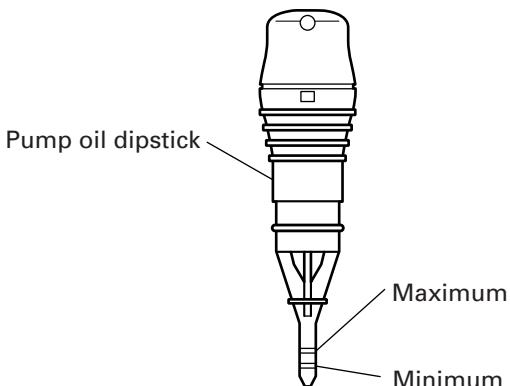
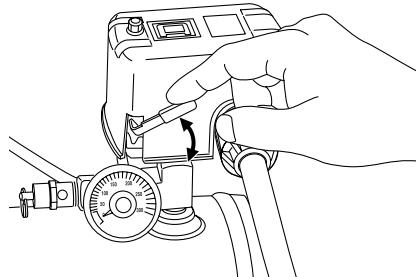
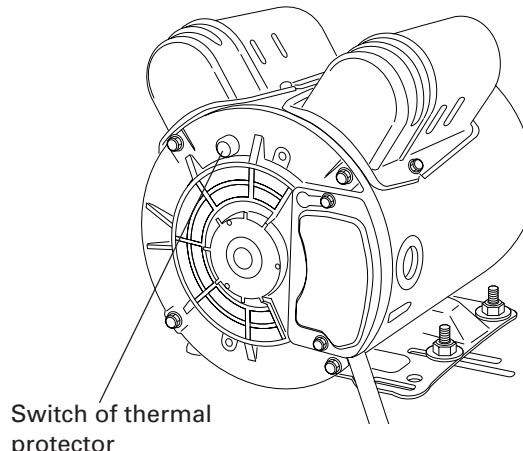

Fig. 2
Fig. 3
Fig. 8
- (1) Read safety warnings before setting-up this compressor.
- (2) Ensure the oil level in this compressor pump is adequate. If the oil level is low, replenish oil through the filling hole so that the amount of oil will come to a point between the maximum notch and the minimum notch on the pump oil dipstick according to the following OIL TYPE CHART. (Fig. 2)
- (1) The pump oil dipstick will register the amount of oil in the pump. (Fig. 2) Oil level should be checked on a daily basis to ensure it does not exceed the maximum notch or does not fall below the minimum notch on the pump oil dipstick. If the oil level is low, replenish oil through the filling hole so that the amount of oil will come to a point between the maximum notch and the minimum notch on the pump oil dipstick according to the OIL TYPE CHART on page 9.
- (2) Remove any moisture in the air compressor air tank. To drain the air tank, open the drain valve slowly and tilt compressor to empty accumulated water. Close tightly when drained.
- (3) Make sure the Motor/Pressure switch is in the "OFF" position (Fig. 3). If the plug is connected to a receptacle while the knob is in the "AUTO" position, the compressor will start operating immediately and can cause serious injury.
- (1) Make sure the Motor/Pressure switch is in the "OFF" position and disconnect the plug from the receptacle. (Fig. 3)
- (2) If the extension cord does not conform to the specifications given on page 9 and 10 replace with an extension cord such as that shown on page 9 and 10. If the capacity of the power supply is insufficient, increase the power supply capacity to remove the cause of a flow of excessive current (over-current).
- (3) Wait approximately 5 minutes, then press the reset switch of the thermal protector (Fig. 8).
- (4) Start up. If the motor still stops during operation, please contact the service center.